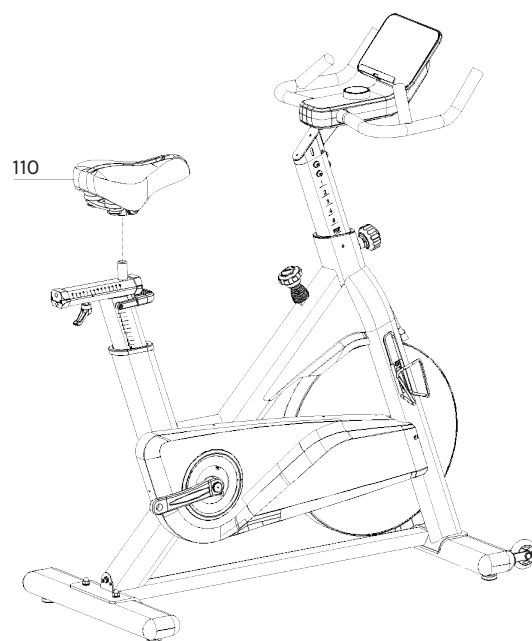

FIG 5
A. Place the Saddle (pt.110) horizontally, as shown in FIG.5, use 2x Wrench (pt.40) to tighten the nuts on both sides at the same time. Do not tighten the nut on one side only as this will not fully secure seat.
The main window numbers are initially set to a carousel display featuring the illuminated "SCAN" icon. The display cycles through "Speed," "Time," "Distance," and "Calories" every 3 seconds, as illustrated in Figure 5, Figure 6, Figure 7, and Figure 8.